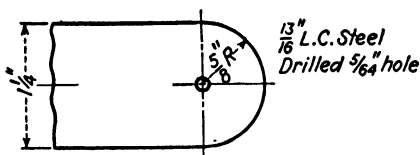

Fig. 218.
4. (a) What is the strength in bearing of the fitting in Fig. 218?